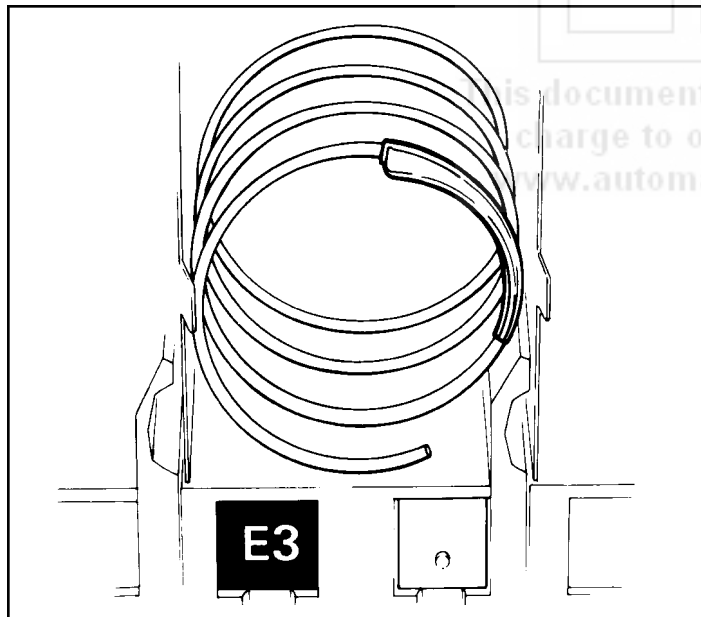

Figure 7. Location of product pusher on spiral.
8. **Product Pusher.** The machine contains enough pushers for you to install a pusher on each candy spiral. This plastic part is designed to push the top of the product forward while it is vending, helping it to fall from the shelf. It can also be used with products that have the wrapper end flap on the outside of the package. In this case, the pusher prevents these products from hanging on the spiral by spreading the flap. The pusher is installed approximately 210 degrees from the front end of the spiral with the tab extending forward. (Figure 7.) Locate the pusher in its proper position, hold it against the spiral wire and push the semi-circular part around the spiral wire.